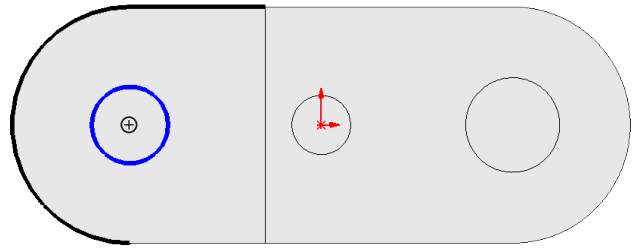

Fig. 28
Step 5. Click **Circle**  (S) on the Sketch toolbar.
Step 6. Sketch circle concentric with circular edge of left side, Fig. 28. To wake up center-point, hover cursor over circular edge.